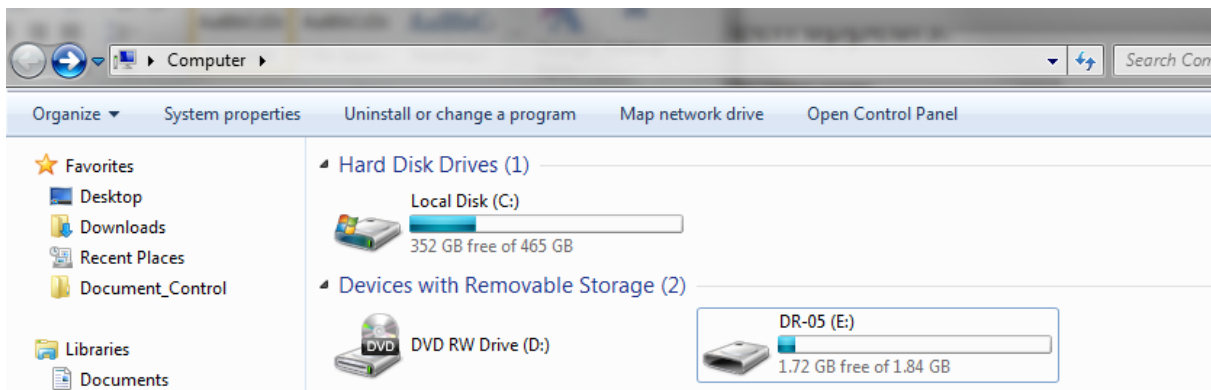

Figure 6
3. Open Windows Explorer (sometimes called “My Computer”), then double click on the icon that is labeled DR-05 (Figure 6).